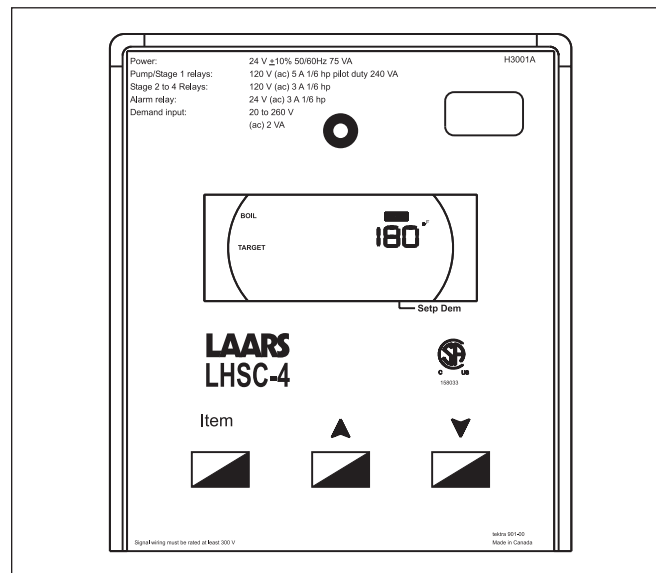

Figure 25. Temperature Control.
There are three black programming buttons on the Temperature Control (see Figure 25). Press and hold all three programming buttons until the word **ADJUST** appears in the upper right corner of the LCD display (it replaces the word **VIEW**).
The control also evaluates the sensor(s) installed in the system. If the control is not in warm weather shutdown (WWSD), and the sensor(s) are below the target temperature, the “Dem” segment is turned on in the display. The control energizes the pump (on pump mounted boilers) and energizes both “PMP” terminals. The pump symbol appears in the display (see Figures 25 and 26). The control then operates the stages to maintain the setpoint temperature.
Step 2: Press the three programming buttons to enter **ADJUST** mode (Figure 25). Press **ITEM** to select the programming item, and the arrow keys to adjust the setting. **TARGET TANK** is desired tank temperature. Recommended settings with a desired tank temperature of 125°F:
Step 3: Press the three programming buttons to enter **ADJUST** mode (Figure 25). Press **Item** to select the programming item, and the **ARROW** keys to adjust the setting. See Section 6.3 Programming the Temperature Control if more programming instructions are needed.